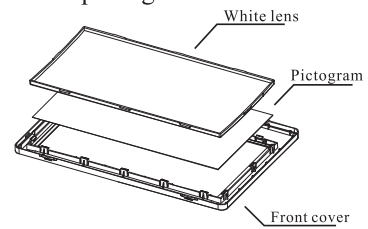

Fig.5
Wall Mount (See Fig.4.1;Fig.5)
5.3. Knockout the appropriate mounting hole cover on the back plate(Fig 5).